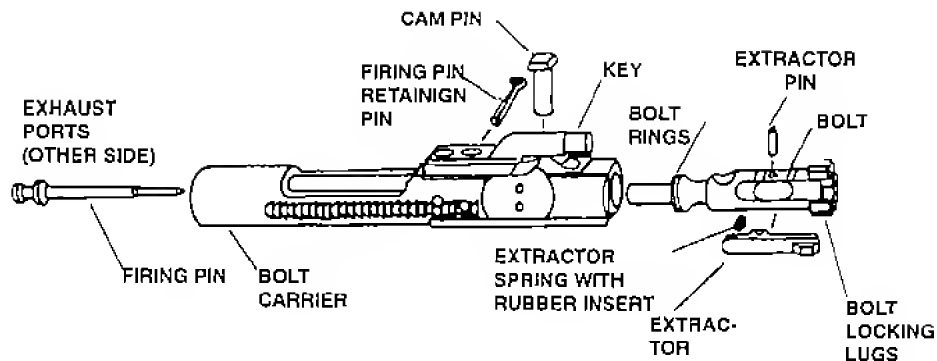
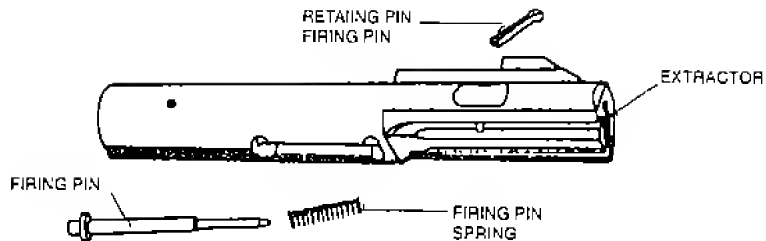

FIGURE 13 — BOLT AND BOLT CARRIER ASSEMBLY - 223 Cal.
FIGURE 14— BOLT - 9MM CARBINE
7. Push in firing pin retaining pin from right to left of bolt carrier (223 cal) bolt (9mm) and remove pin by pulling it out to the left. (See Figure 13 — 223 cal , or Figure 14 — 9mm).